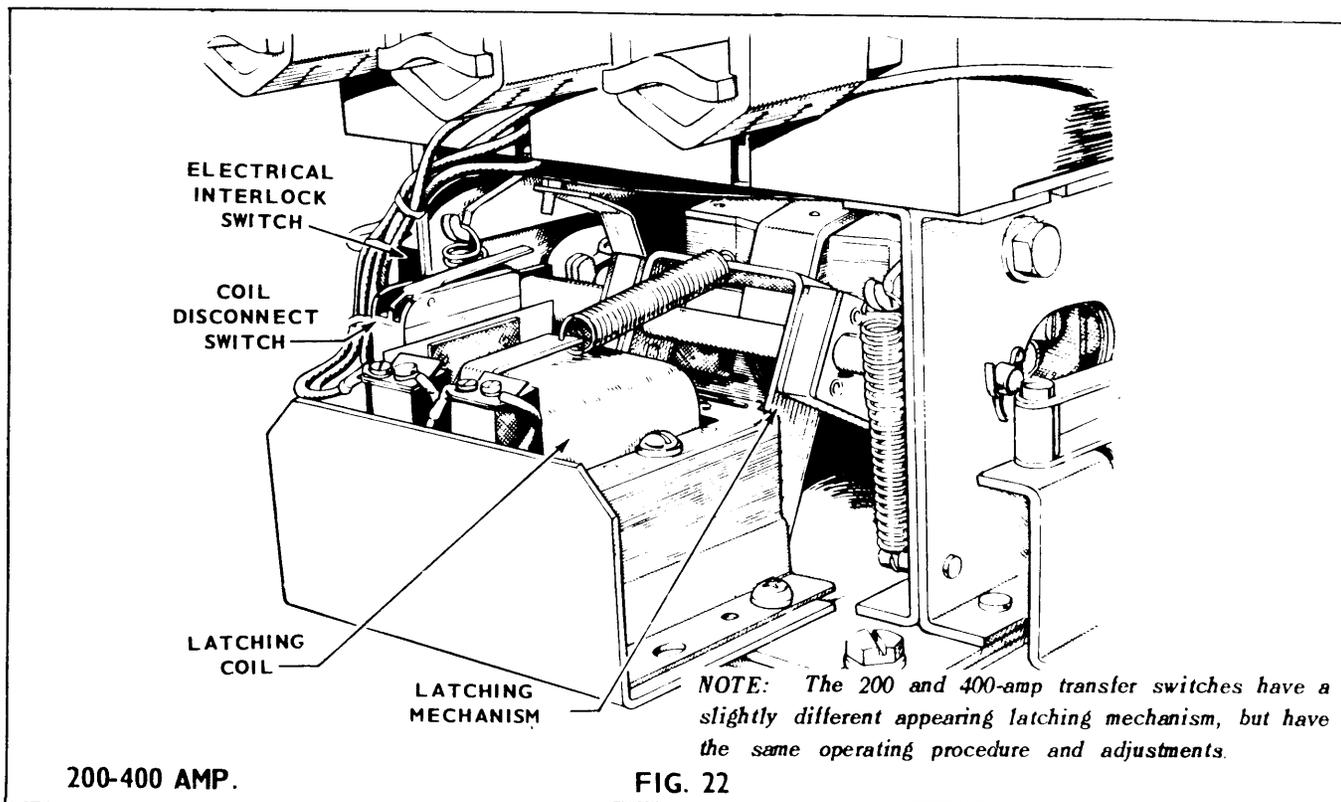

FIG. 22
<p>MECHANICALLY HELD SWITCH 200-400 AMP (FIG. 22)</p> <ol style="list-style-type: none"><li>1. Disconnect coil lead wires.</li><li>2. Remove cap screws (4) mounting the coil and stationary magnet assembly to the case.</li><li>3. Pull out assembly</li><li>4. Remove coil from magnet assembly.</li></ol>
The line contacts are closed and locked in the following manner (see Fig. 22). The line-side main coil pulls the contacts closed. While the contacts are closing, the mechanical latch engages the contact control rod and locks the contacts closed. At the same time, an arm on the mechanical latch actuates the coil disconnect switch (micro-switch) which opens the main coil circuit. The line contacts are now closed and locked in place and power is removed from the main coil simultaneously. Removal of power from the main coil eliminates any electrical noise (hum) from the transfer switch. To open the line contacts, the latching coil must be energized which disconnects the latching mechanism allowing the line contacts to open.